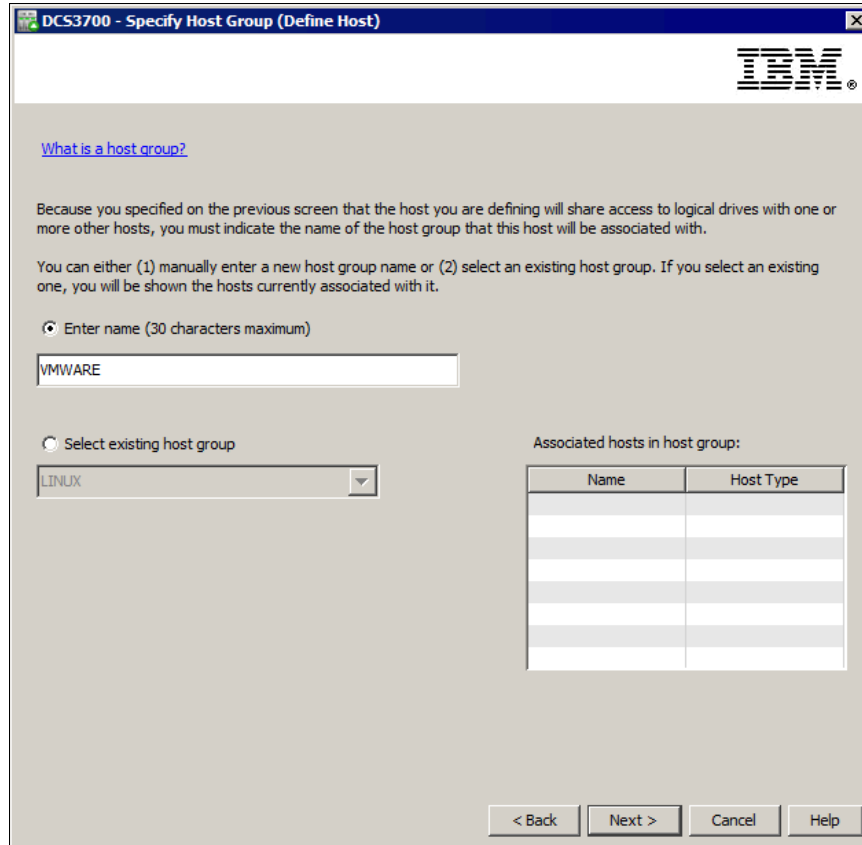

Figure 10-9 Define Host - specify a new host group
7. (Optional) If the answer is **Yes**, then you must specify a host group. The host group can be either a new or an existing one. If you select an existing host group, hosts that are already associated with that group are displayed in the right pane of this window. If you enter a new name, as shown in Figure 10-9, the new host group is created with this new host as a member. Select **Next** to continue.